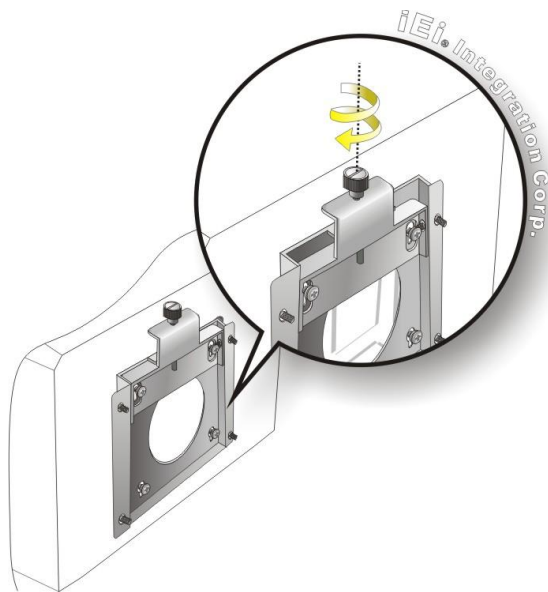

Figure 3-28: Secure the Panel PC
Step 9: Secure the panel PC by fastening the retention screw of the wall-mounting bracket (**Figure 3-28**).